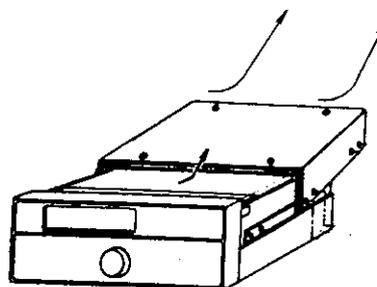

Figure 5.2 Removal of the Upper Cover
- (2) As pushing the upper cover backward, hold it up until taken off. (See Fig. 5.2.)
- (4) Remove the lower cover in the same manner as shown in Fig. 5.2.
- (5) Note that the interface unit is mounted inside the lower cover.